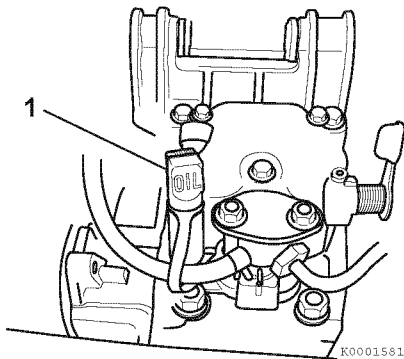

Figure 8
1. Remove the oil plug (1, **Figure 8**).
3. Reinsert the oil plug (1, **Figure 8**).